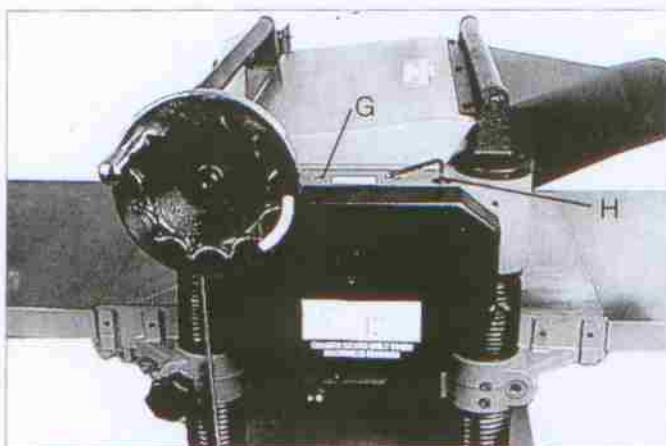

Fig.28
* To adjust the spring tension of the Infeed/Outfeed roller,turn the screw(G)/(H)Fig.28.and also the screw on the opposite end of the Infeed/Outfeed roller.